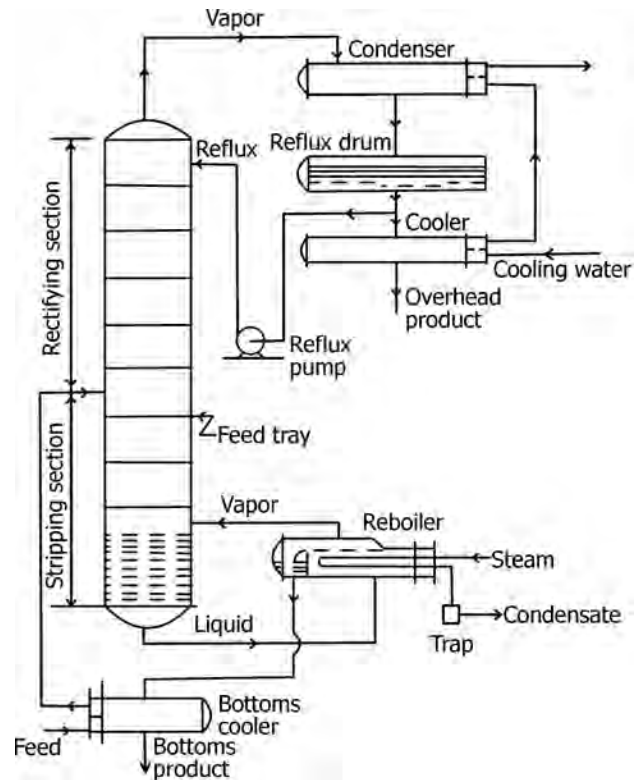

FIGURE 17.14 Operation of a simple distillation unit showing different parts.
- Figure 17.14 illustrates the essential parts of a fractionating column and associated units for binary distillation, indicating *rectifying* and *stripping* sections.